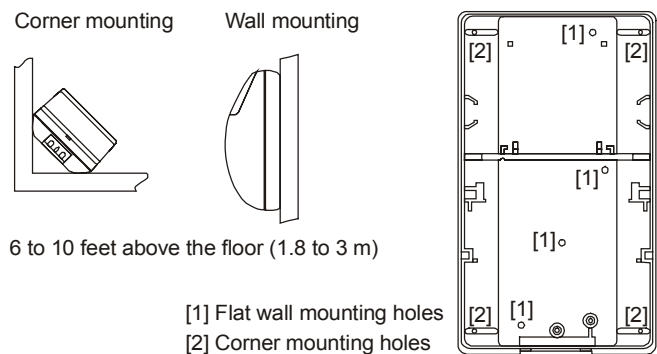

Figure 1: Mounting locations
2. Mount the base to a flat wall or a corner. (See Figure 1 and "Mounting the detector.")